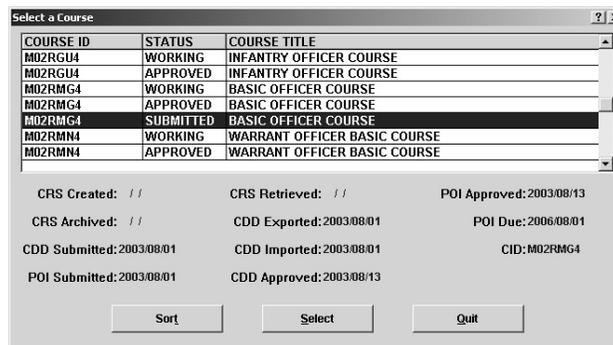

Figure 6-01. Select a Course
1. Click on the Book icon. The Select a Course selection list box (Figure 6-01) displays a list of all the course records to which you have access.
1. Click on the Book icon. The Select a Course selection list box (Figure 6-01) is displayed.